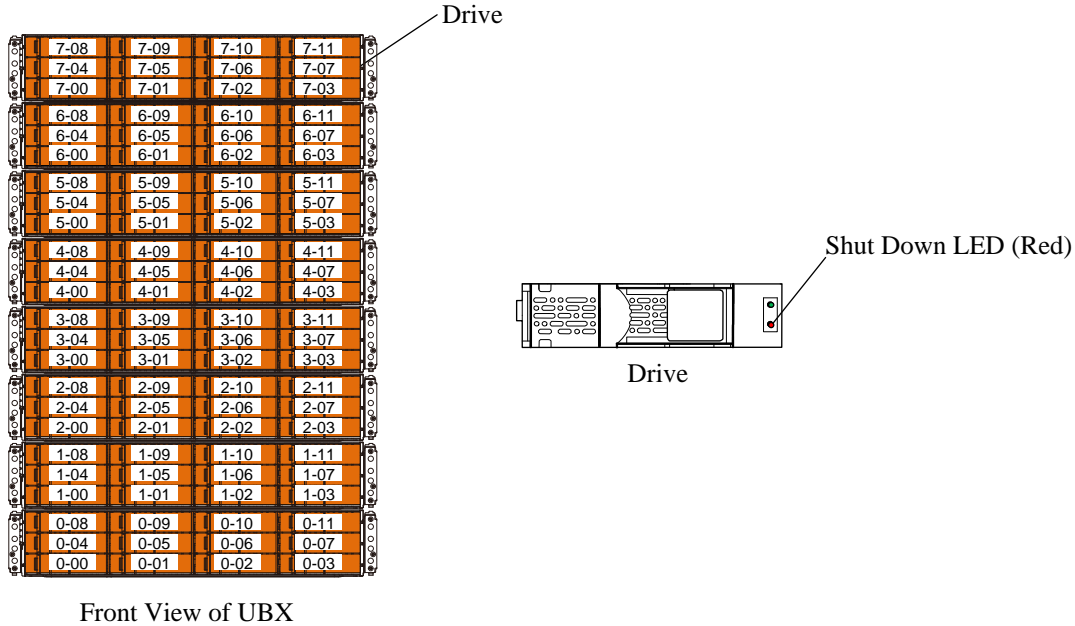

Fig. 3.5.2-1 Checking of Shut Down LED (In case of UBX)
- Check that the Shut Down LED on drive is turned on. Refer to Fig. 3.5.2-1, Fig. 3.5.2-2 or Fig. 3.5.2-3.